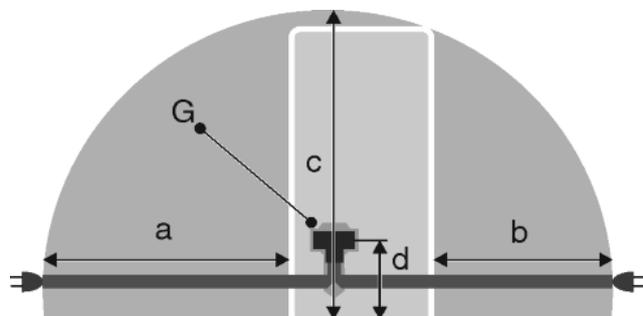

Fig. 41
- The socket is outside the back of the appliance area in the specified area Fig. 41 (a, b, c).
- ▶ Insert the appliance plug Fig. 41 (G) into the back of the appliance. Ensure that it clicks into place.